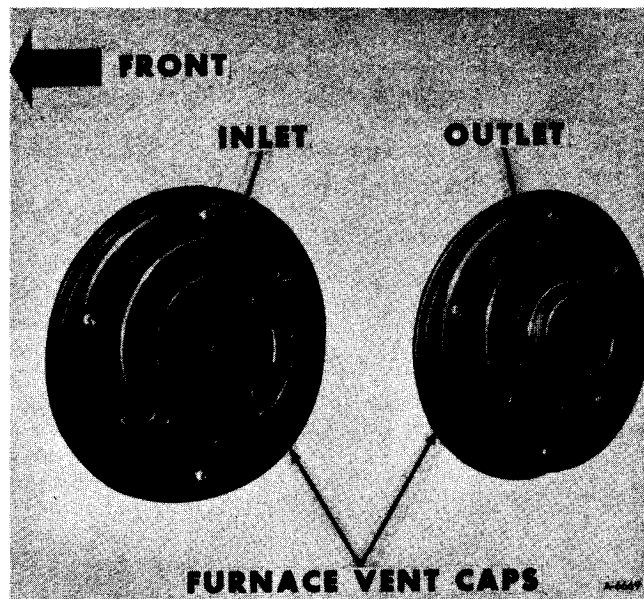

Figure 10 – Furnace Vent Caps
NOTE: To aid in installation of combustion chamber assembly, remove inlet and outlet vent caps from outside of motorhome. (Figure 10).
7. Carefully install furnace vent caps from outside of vehicle (Figure 10).